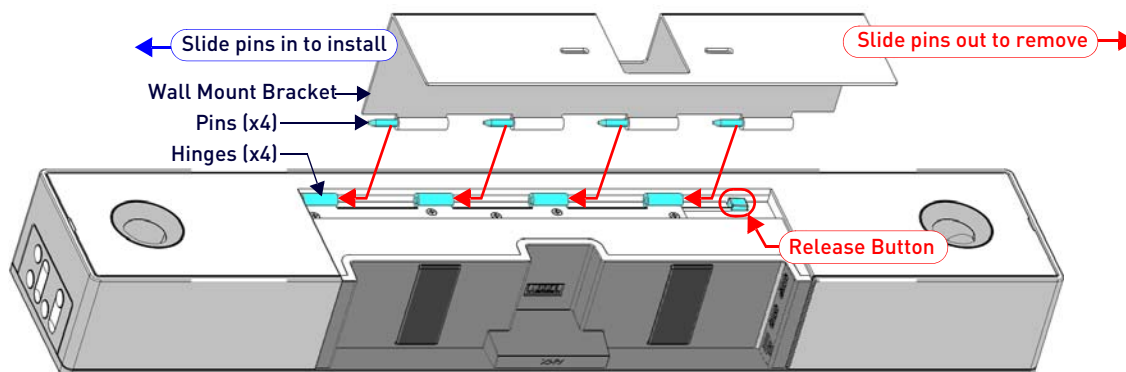

FIG. 7 Acendo Vibe Bottom View - removing the bracket
3. Lift the Wall Mount Bracket off of the hinges to remove (FIG. 7):
1. Remove the Bracket from the Acendo Vibe (see FIG. 7 on page 8).
2. Attach the Acendo Vibe to the Bracket by sliding the pins on the Bracket into the hinges on the rear of the main unit (see FIG. 7):
Note: Press the Bracket into place so that the last pin depresses the Release Button, allowing the pins to slide into the hinges (see FIG. 7)